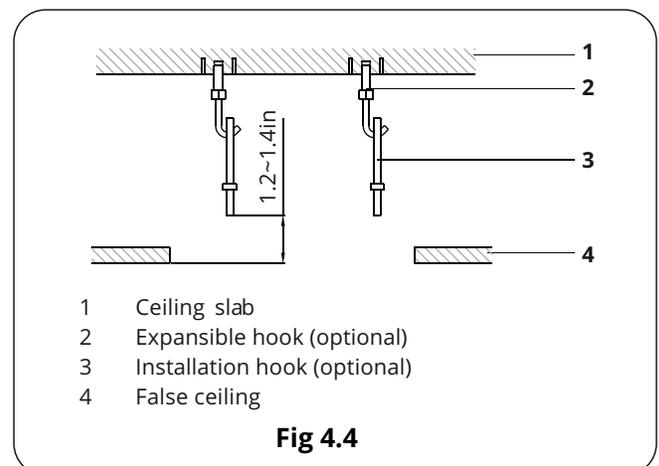

Fig 4.4
Use threaded rod for installation. Check whether the ceiling is strong enough to support the weight of the indoor unit. If there is a risk, reinforce the ceiling before installing the unit. Space required for installation. See Fig. 4.4 on the next page for details.
- Adjust clearance from the ceiling before proceeding further. See **Fig. 4.4** for Installation example.